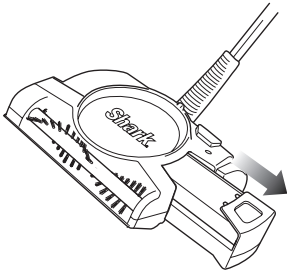

Fig. 4
- 4 When you're finished cleaning, pull the dust container straight out from the side. (Fig. 4)